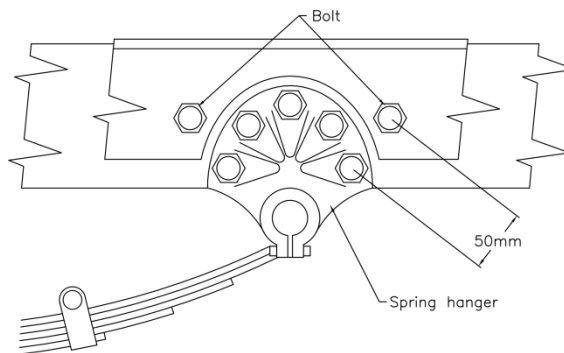

Figure 12: Bolts near suspension brackets
- Do not allow bolts to be closer than 50 mm to any spring hanger bolt or rivet (see Figure 12).